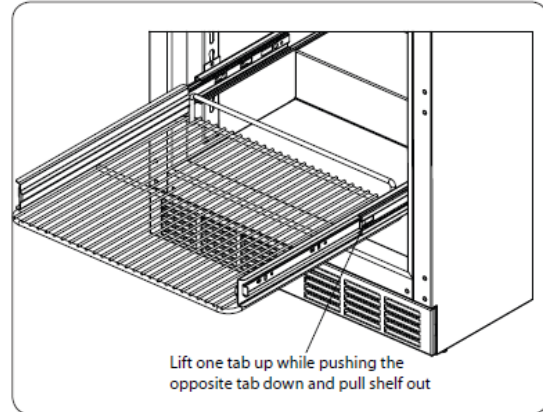

Figure 4. Sliding Shelf Extender Tabs
1. Pull the shelf out to its furthest position. Locate the tabs in the middle of both extenders (Figure 4), Lift on tab up while pushing the opposite tab down and pull shelf out.